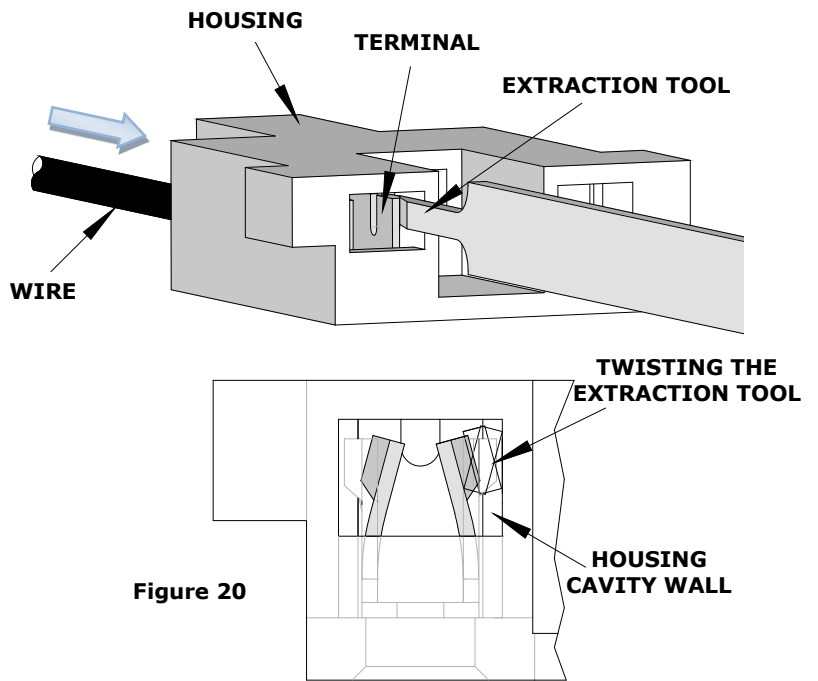

Figure 20
3. Using a twisting action, bend the upper "U" channel toward the middle of the terminal. See Figure 20.